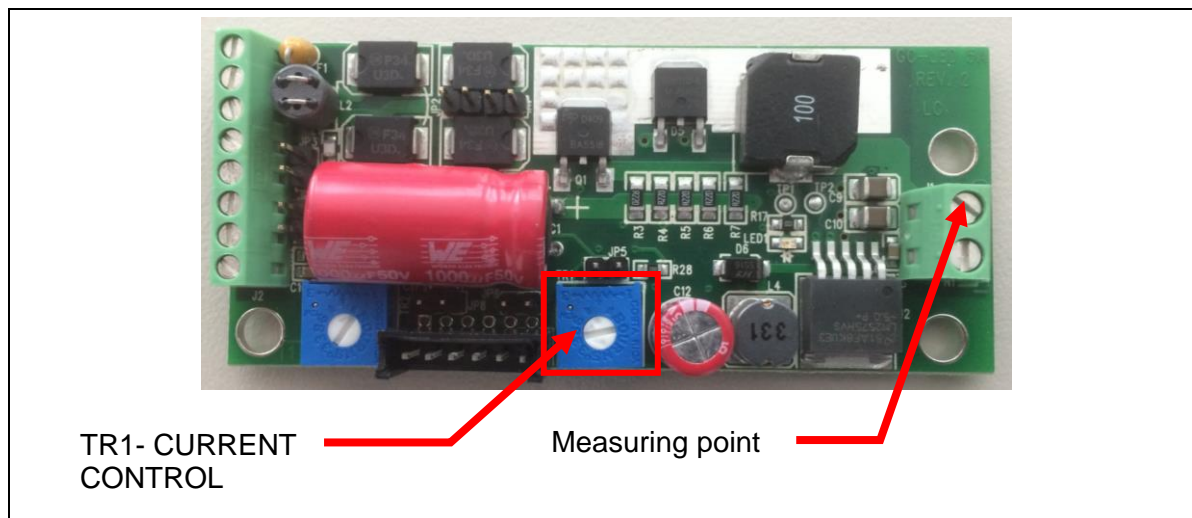

Figure 5: GC-LED 5A PCB (Timer PCB), new version
- (1) Adjust the output current intensity to the LED to approximately 3.4 A (+/- 5%) with the TR1- CURRENT CONTROL potentiometer (see Figure 5).